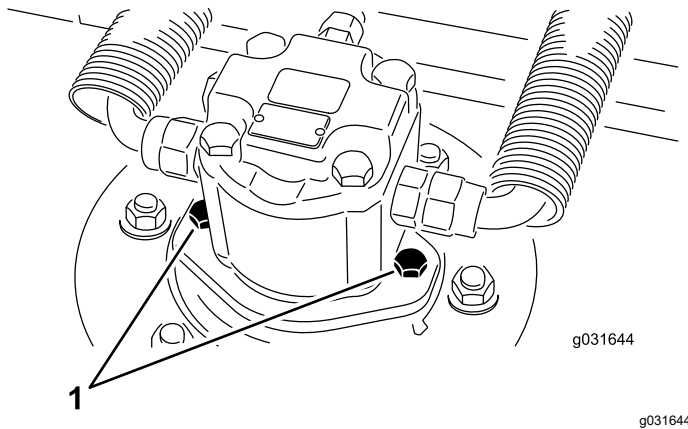

Figure 69
2. Remove the hydraulic-motor-mounting screws and disconnect and remove the hydraulic motor from the cutting unit (Figure 69).
4. Using the hydraulic-motor-mounting screws, install the hydraulic motor to the cutting unit (Figure 69).